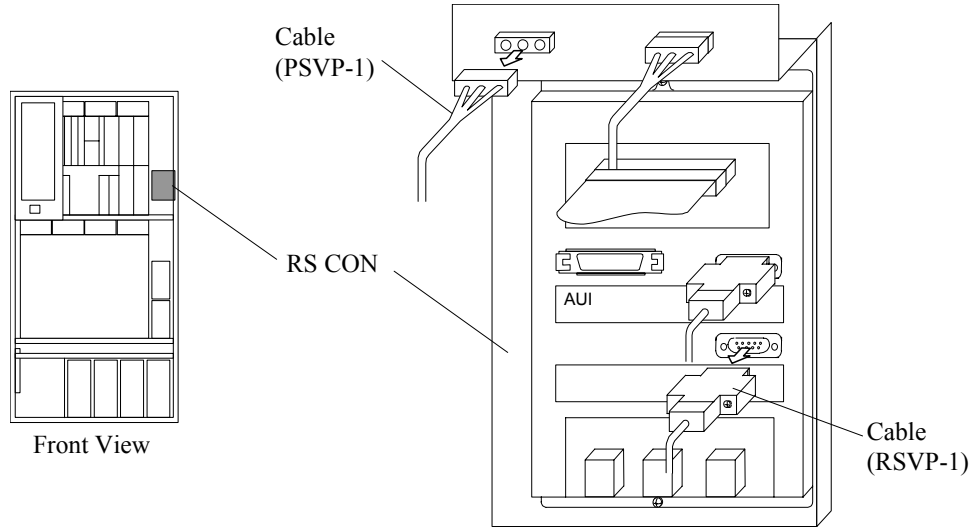

Fig. T7.1-4 Disconnect of Cables
- a. Disconnect the RS232C cable (RSVP-1) from the RS CON PCB. (See Fig. T7.1-4 [REP03-480].)